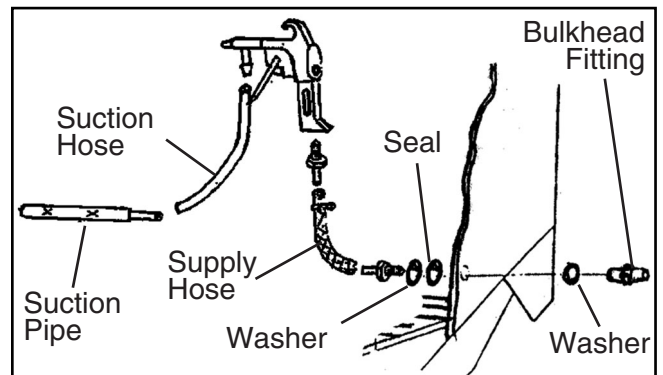

Figure 3. Blast gun assembly.
3. Install the bulkhead fitting with gasket. Attach the air supply hose and suction hose to the bulkhead fittings and suction pipe with hose clamps (**Figure 3**).